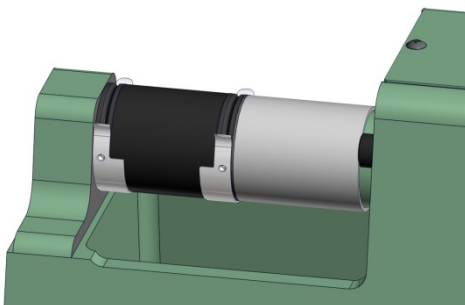

Figure 5.1.4
3. Rotate the Rotary Handle clockwise to load the test specimen. Load the specimen increasingly, and consistently. (Clay bonded sand specimen: load approximately 0.25 N/cm^2 per second). Continue to load the specimen until it breaks. (See Figure 5.1.4).